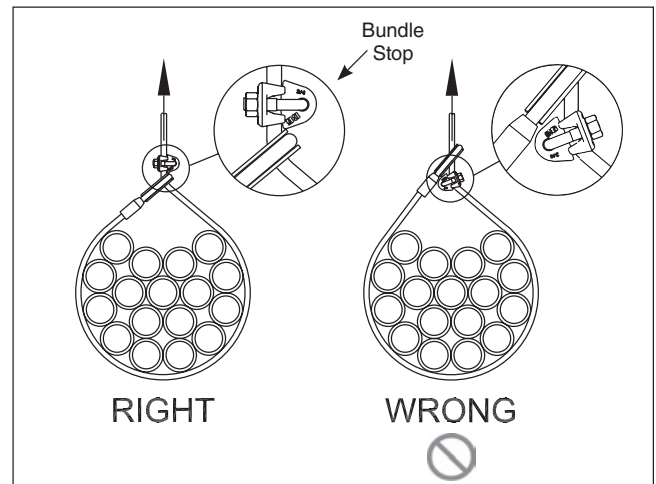

Figure 3
3. After initial loading, install the Bundle Clip. The orientation of the Bundle Clip on the live line is not an important consideration, as the assembly is of adequate size to prevent passage through proper size Crosby Thimble and next larger size Thimble. Insert U-bolt through the Bundle Clip. Properly position the clip base over the U-bolt and install nuts (See Figure 3). Use torque wrench to tighten evenly, alternating from one nut to the other until the bundle stop bottoms out on the clip base, and the recommended torque is reached (See Table 1).